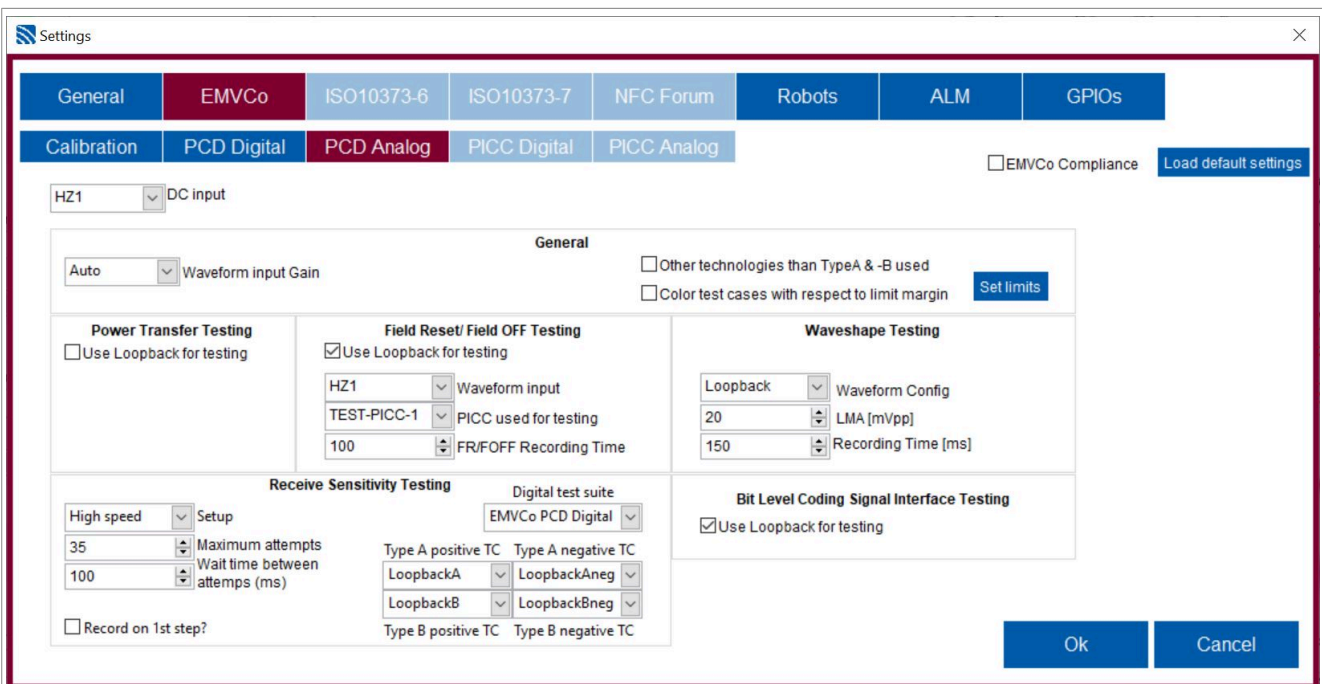

Figure 11. cilab options: power transfer test
- d. Switch power transfer to “free” in cilab options (see Figure 11.)
| Fig. 3. | measure_vov --h | 5 | Fig. 11. | cilab options: power transfer test | 11 |